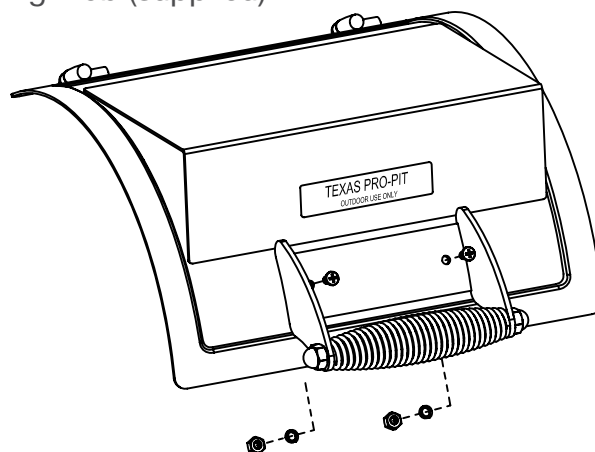

fig. 19a
- Fit firebox lid handle (34) to firebox lid (38) using 2-M6x15 mm bolts at the top and 2-M6 nuts below fig. 19a.